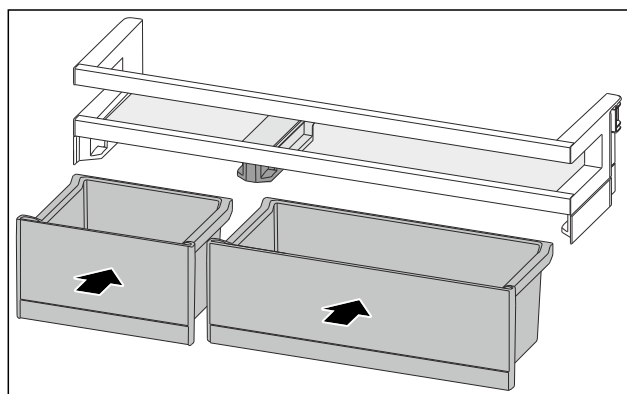

Fig. 88
- ▶ Insert the VarioBoxes in reverse order. (see Fig. 88)